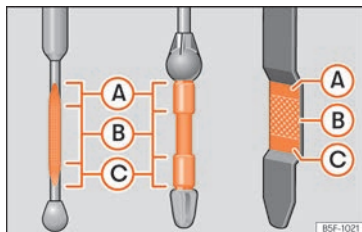

Fig. 270 Engine oil dipstick.
If the oil level is above area »» Fig. 270 (A), do not start the engine. This could result in damage to the engine and catalytic converter. Contact a Technical Service.
If the oil level is above area »» Fig. 270 (A), do not start the engine. This could result in damage to the engine and catalytic converter. Contact a specialised workshop.
The oil level must never be above zone »» Fig. 270 (A). Otherwise oil can be drawn in through the crankcase breather and leak into the atmosphere via the exhaust system.